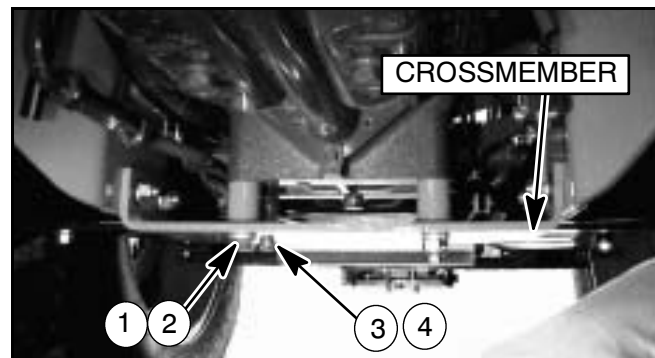

Figure 4 Crossmember Installed
1. Install #46000 crossmember to the underside of the tractor clutch housing, using cap screws and hardened flat washers as shown in Figure 4.